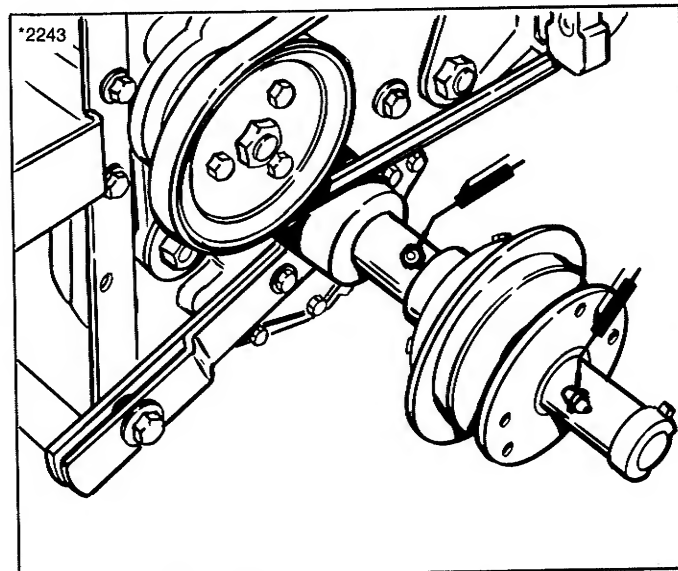

Figure 7. Grease Fittings
- d. Two fittings on the right hand rear axle (figure 7).